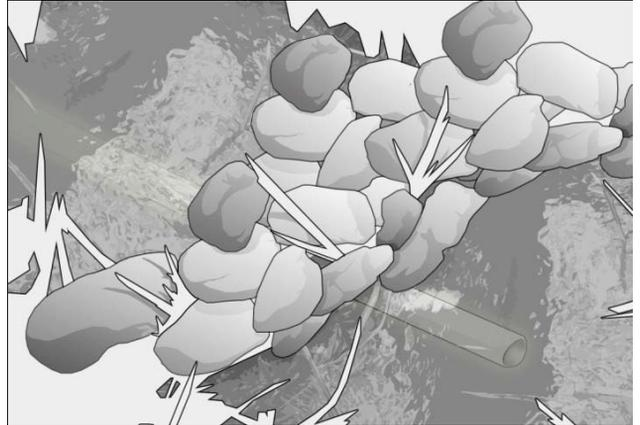

Figure 4. Build a weir with rocks so that it will raise the intake water level
- a) Build a weir to raise the intake water level (Fig. 4) A weir is a small barrier made of rocks, mud, and possibly concrete that is used to raise the intake water level and submerge the pipe intake.